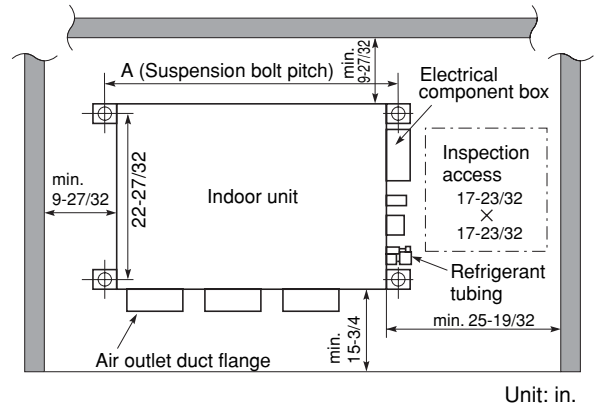

Fig. 3-61
- The minimum space for installation and service is shown in Fig. 3-61 and Table 3-3.
- (1) When placing the unit inside the ceiling, determine the pitch of the suspension bolts referring to the dimensional data on the previous page. (Fig. 3-61 and Table 3-3)